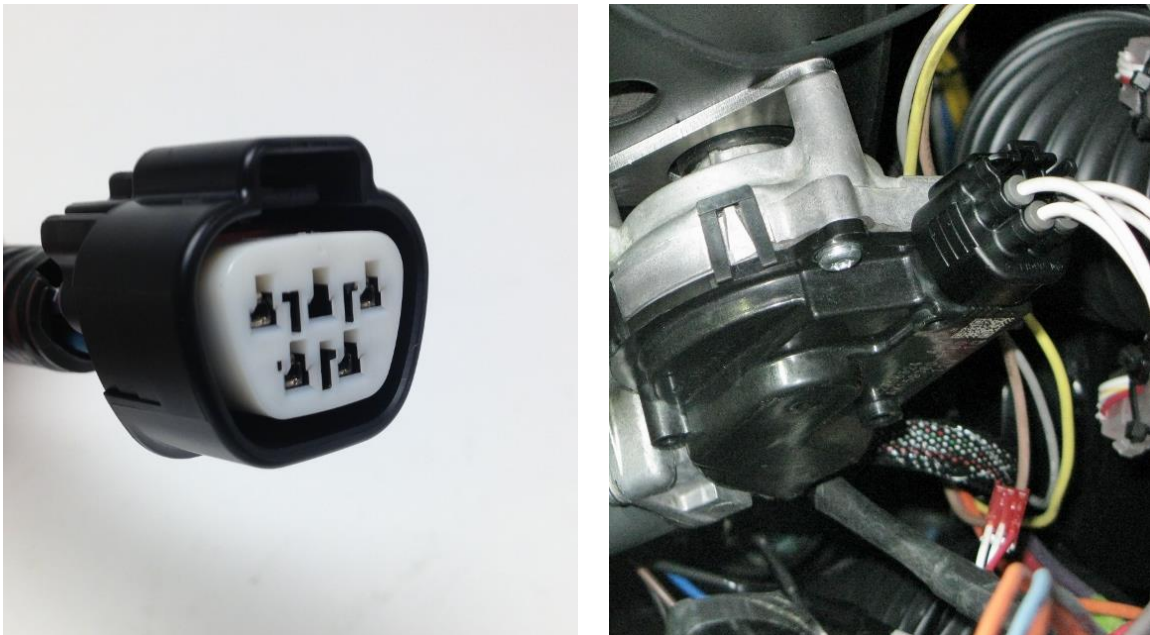

Figure 9 - Wiper Motor Connector
14. Install the wiper motor connector side of the wiring harness into the wiper motor (Figure 9).